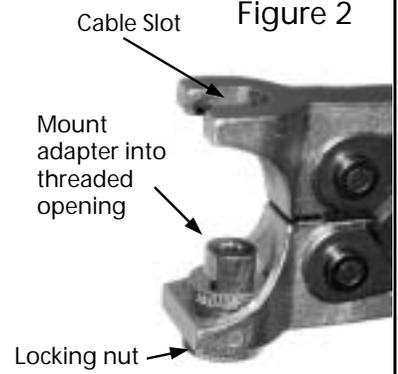

**Figure 1**
- 1. Tool Set Up:** Adapters for crimping 'F', RCA & BNC style connectors are included with the tool and store in handle when not in use. See figure 1.